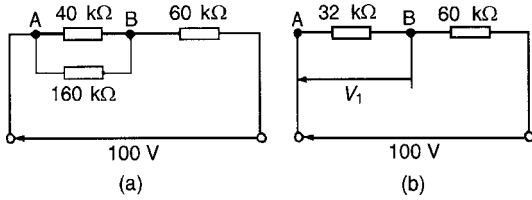

Figure 10.12
- (b) The resistance of a voltmeter having a 100 V f.s.d. and sensitivity $1.6 \text{ k}\Omega/\text{V}$ is $100 \text{ V} \times 1.6 \text{ k}\Omega/\text{V} = 160 \text{ k}\Omega$. When the voltmeter is connected across the $40 \text{ k}\Omega$ resistor the circuit is as shown in Fig. 10.12(a) and the equivalent resistance of the parallel network is given by
The circuit is now effectively as shown in Fig. 10.12(b). Thus the voltage indicated on the voltmeter is